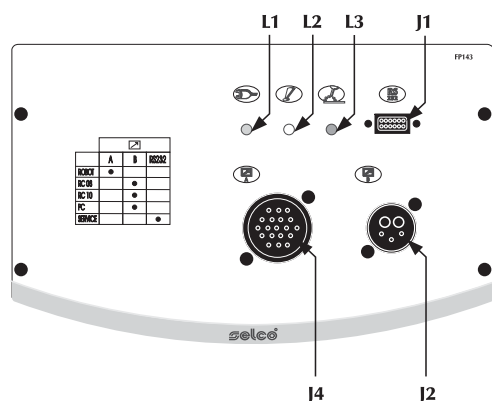

Fig.3
2.1.3 Betjeningspanel foran FP143 (Fig. 3)